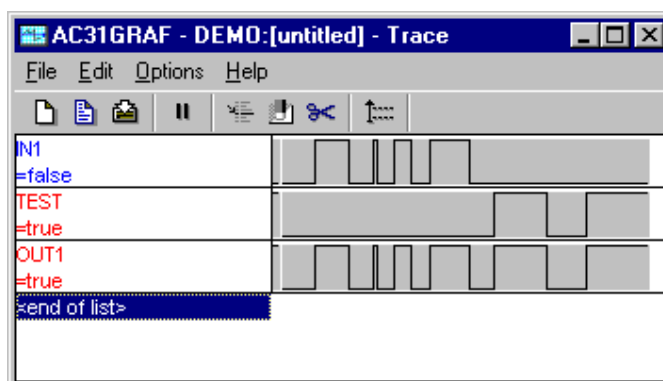

Figure 2-20 : "Trace" window for a graphic visualization of the signals
- ⇒ Click on the  "Insert variable" icon in the "Trace" window in order to insert a variable (Figure 2-20).
The input, internal bit and output signals are immediately traced in the "Trace" window (Figure 2-20).